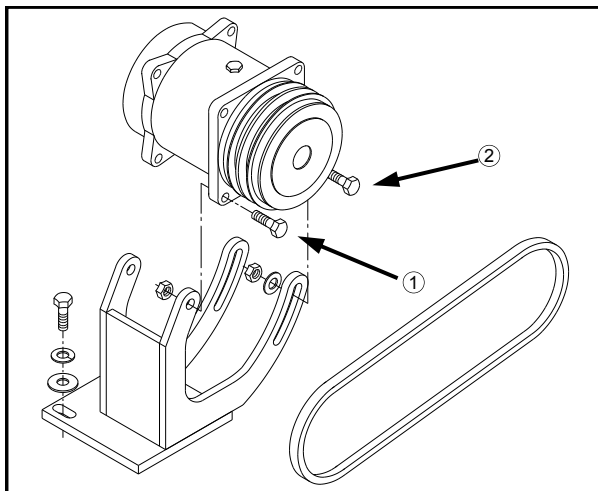

FIG 7.45
To tighten air conditioner belt, loosen the two pivot bolts (fig. 7.45, item 1) and the two slide bolts (fig. 7.45, item 2). Using a suitable prying tool, adjust tension on the belt to desired tautness. While maintaining tension, re-tighten all four bolts. Inspect the belt every 250 hours.